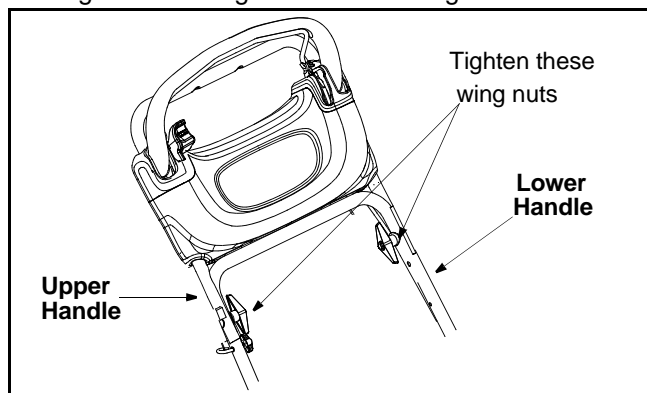

Figure 2
4. Tighten the wing nuts shown in Figure 2.